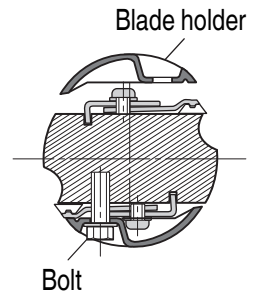

Fig. 21
- (6) As shown in **Fig. 21**, place the blade holder on the completed assembly and fasten it with the three bolts. Ensure that the bolts are securely tightened. Follow the same procedures for the opposite side carbide blade.